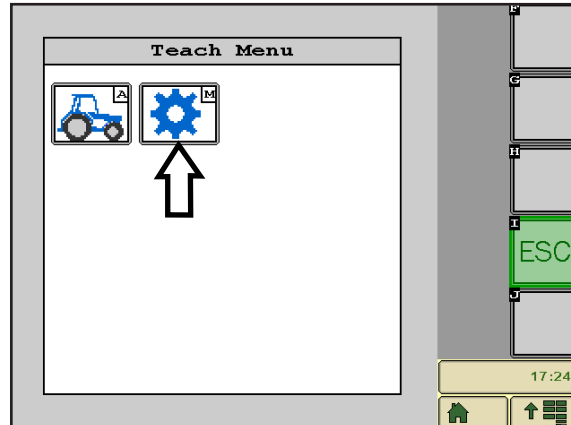

Fig. 12: Accessing the “Teach basic settings” menu
Tap the gear symbol (M) in the Teach menu to call up the basic settings (see Fig. 12).